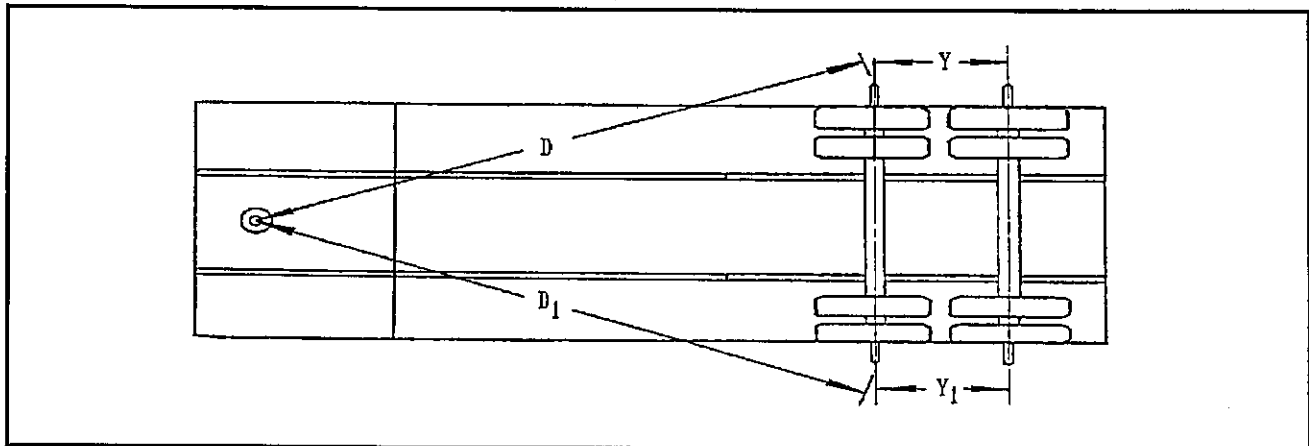

FIG. 6-12 AXLE ALIGNMENT CHECK
d. Measure (D) from the plumb bob to the center point on one end of the axle. Record this measurement. (See FIG. 6-12)
e. Measure (D₁) to the other end of the axle in the same manner as in step d. Record this measurement. (See FIG. 6-12)
d. Turn the axle alignment cap screws on the rear axle until the proper alignment to the front axle is obtained. When properly aligned, both ends of the rear axle should be an equal distance (Y and Y₁) from the front axle (See FIG. 6-12)
e. Now align the rear axle to the front axle in the same manner using the torque arm for adjusting. The rear axle should be exactly parallel to the front axle. In other words, dimensions Y and Y₁ in Fig. 6-12 should be the same.
c. Using the adjustable torque arm, align the center axle to the front axle so that dimensions Y and Y₁ (See FIG.6-12) are equal.
d. Align the rear axle to the front axle using the same procedure. The rear axle should be exactly parallel with the front axle. In other words, the dimensions Y and Y₁ in FIG. 6-12 should be the same.